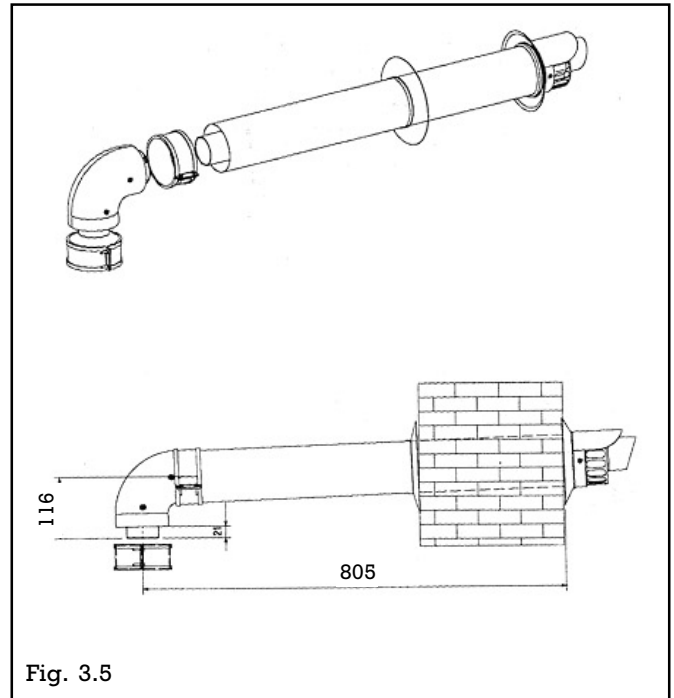

Fig. 3.5
• MONTAGE DE LA VENTOUSE (fig. 3.5)